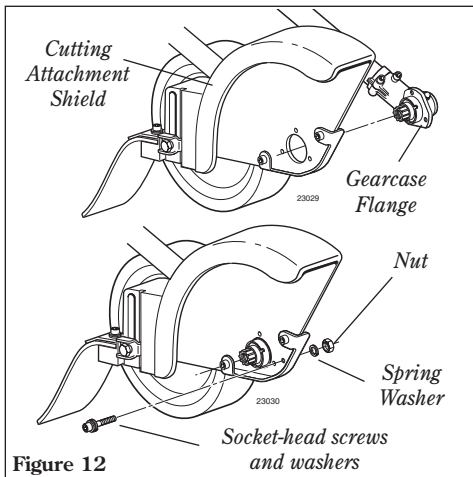

Figure 12
1. Remove the shaft bolt, bolt guard, holder A and holder B from the gearcase. See Figure 12.
2. Align the cutting attachment shield assembly with the gearcase as shown, and then fit the shield onto the matching flange on the gearcase. See Figure 12.
3. Install the socket-head screws with washers, then use the hex wrench to firmly tighten all three screws. See Figure 12.